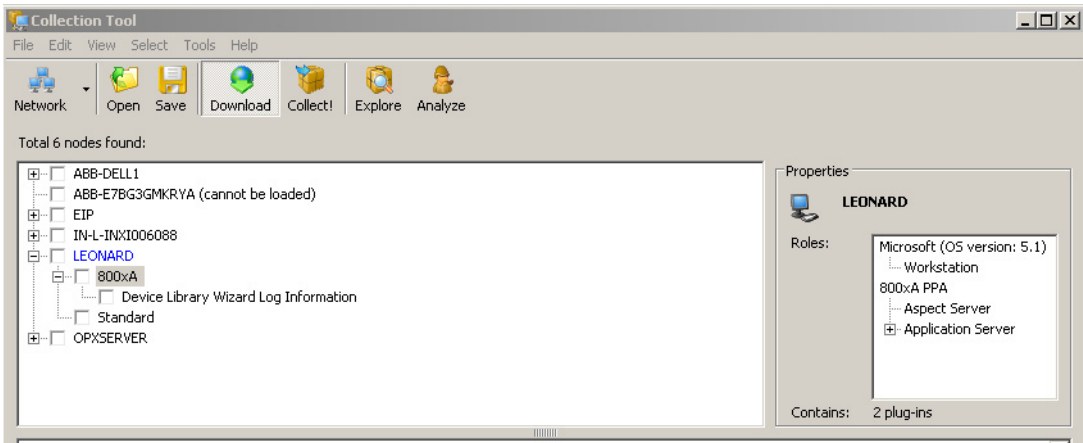

Figure 65. Collection Tool
1. Select the nodes and plug-ins for these nodes from the list. Figure 65 shows the Collection Tool and a number of nodes and plug-ins.